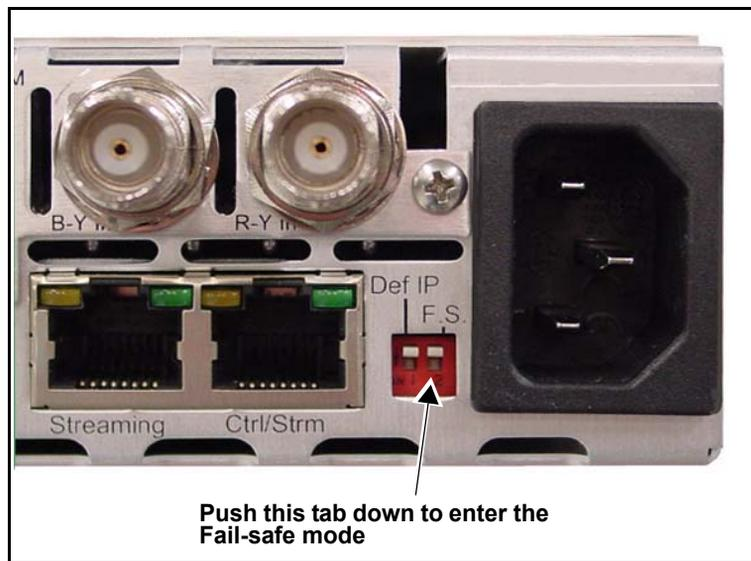

Figure B-12. Location of the F.S. (Fail-safe) DIP Switch
1. Push down the **F.S.** DIP switch on the back of the X85/X75 unit (see Figure B-12).